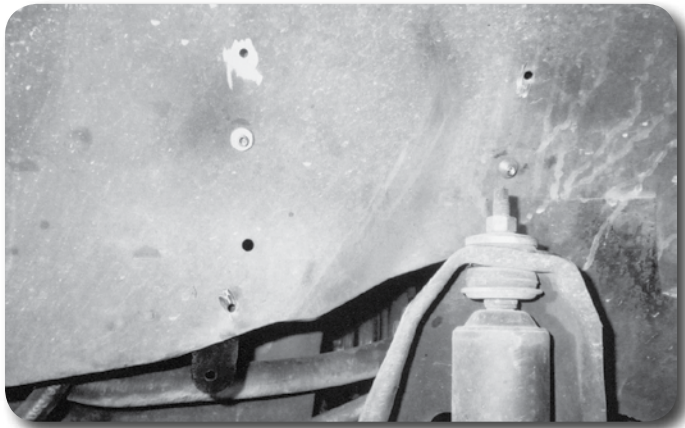

Figure 4
24. Move the bracket straight down from the original mounting holes **Figure 4** until the bottom support leg is just on the edge of the inner fender (about 2-1/2" down). On some models, it may be necessary to bend the bracket legs slightly. Mark the new hole locations (the bottom leg can no longer be used) and drill two 3/16" holes. (The lower support leg can be trimmed so that it does not extend past the edge of the inner fender)